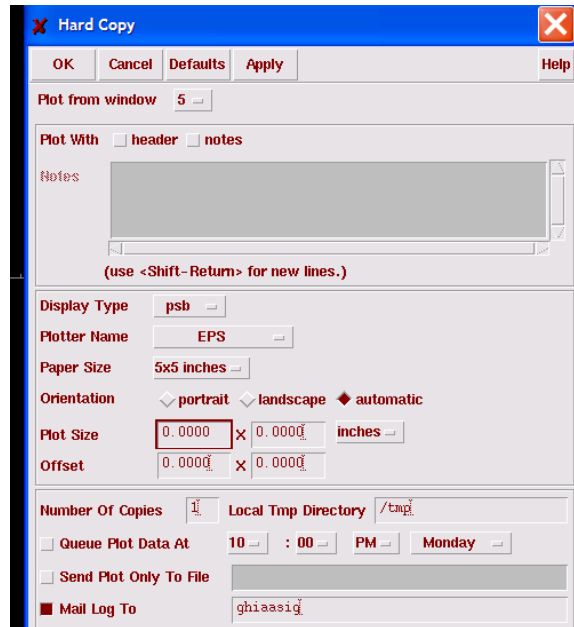

Figure 12
1. For the graphs plotted in the Waveform window, click on Window/Hardcopy. The Hardcopy window (Figure 12) shows up. Again, make sure that Display Type is “psb”. To write as a EPS file, select the Plotter to be EPS. Send Plot Only to File” and specify the file name.